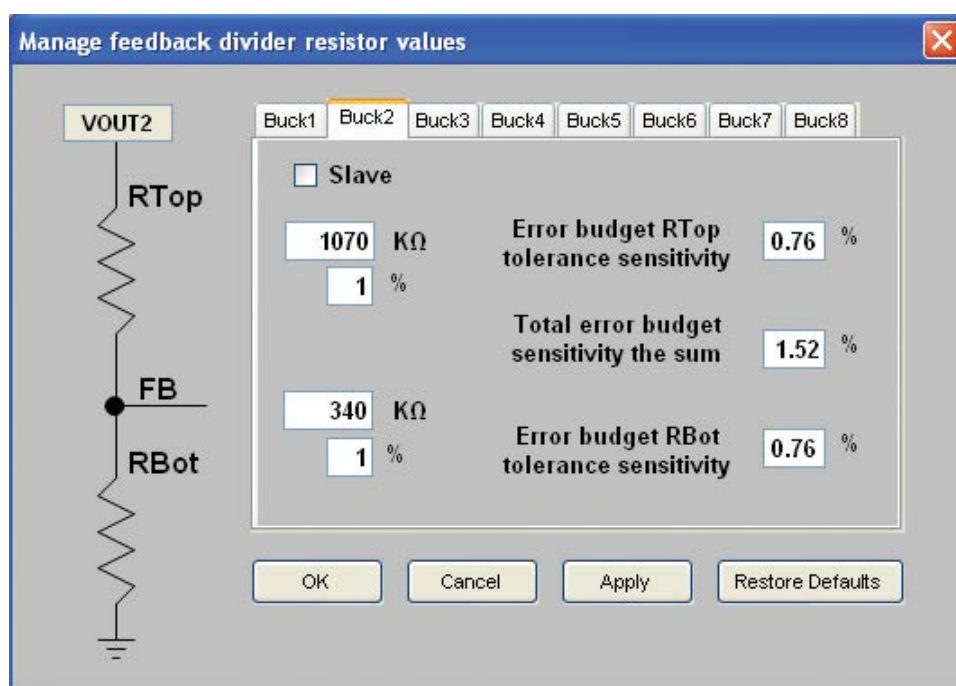

Figure 4. Change Resistor Divider Networks Window
**Change Resistors** button opens up a pop-up window, as shown in Figure 4, with eight tabs allowing the user to change the resistor divider network or for each switching regulator. The resistor values will be used to calculate the values displayed in the VOUT1-VOUT8 text boxes on the LTC3375 control window. The tabs for Buck2 through Buck8 have a slave check box to allow the user to indicate when a regulator is used as a slave. These values are stored in a file when the LTC3375 program is closed so the user will not have to enter the new values each time the program is run.